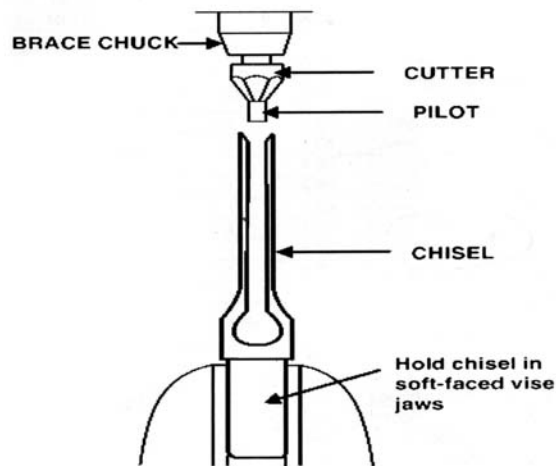

FIGURE 8
- Sharpen the chisel with a mortise chisel cutter with the correct size pilot. (Pilot size will differ depending on the size of your chisel) Two or three turns of the cutter in a carpenters brace chuck should be enough to sharpen the chisel, as shown in Figure 8.